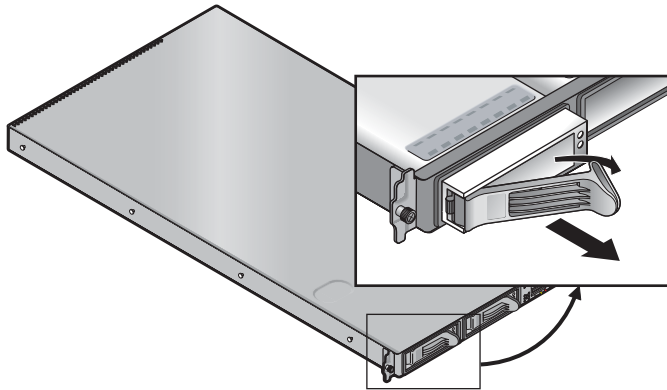

FIGURE 4-6 SCSI Hard Disk Drive Carrier and Release Latch
2. Squeeze the release latch and carefully swing the arm to the left as far as it will go (see FIGURE 4-6).